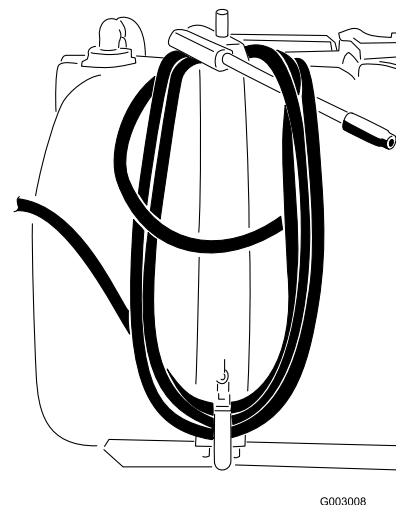

Figure 22
5. Wrap the hose around the hooks on the tank and secure the gun as shown in Figure 22.